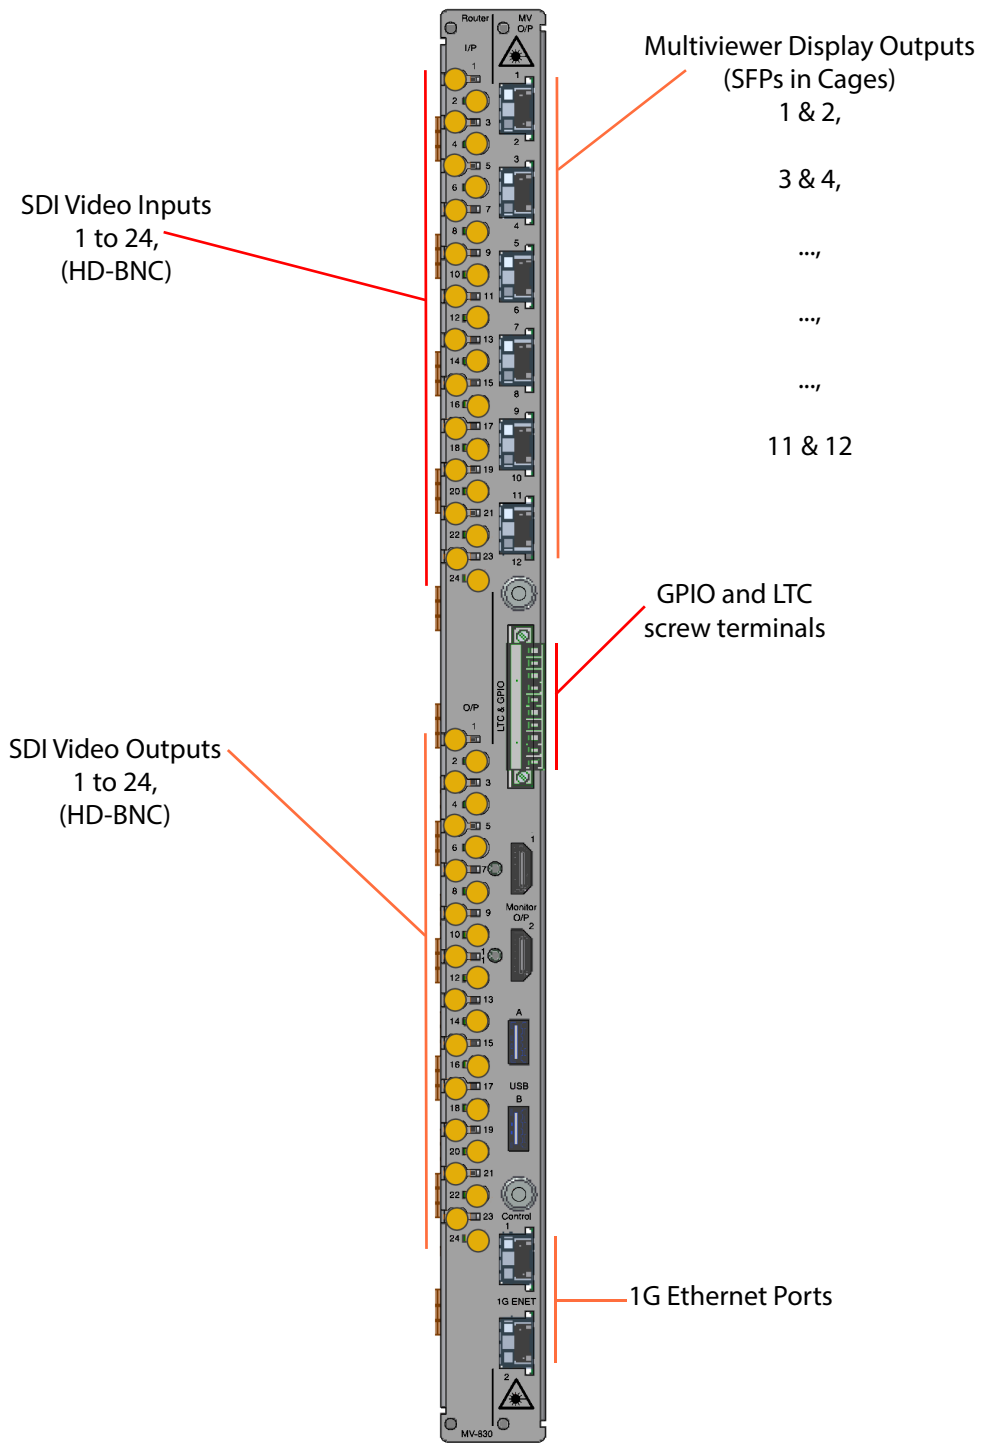

Fig. 3-11: MV-830 Multiviewer Rear Panel Connections (MV-830 Multiviewer-RP)
Now that the MV-830 Multiviewer hardware is fitted into the router, some cable connections need to be made. Figure 3-11 shows the connections that need to be made.
- 1 Connect the MV-830 Multiviewer directly to a computer network port via 1G Ethernet port 1 (see Figure 3-11) using a standard CAT 5e Ethernet cable.